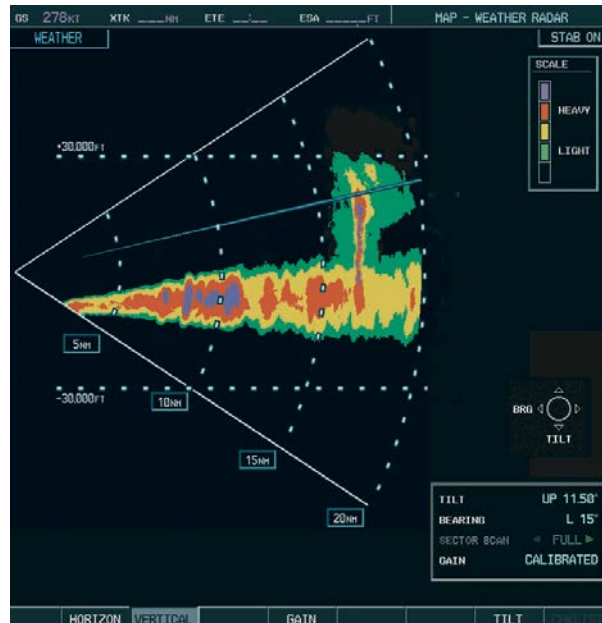

Figure 6-110 Vertical Scan Display
- 4) Select the **VERTICAL** Softkey. A vertical scan of the selected area is now displayed (Figure 6-110).